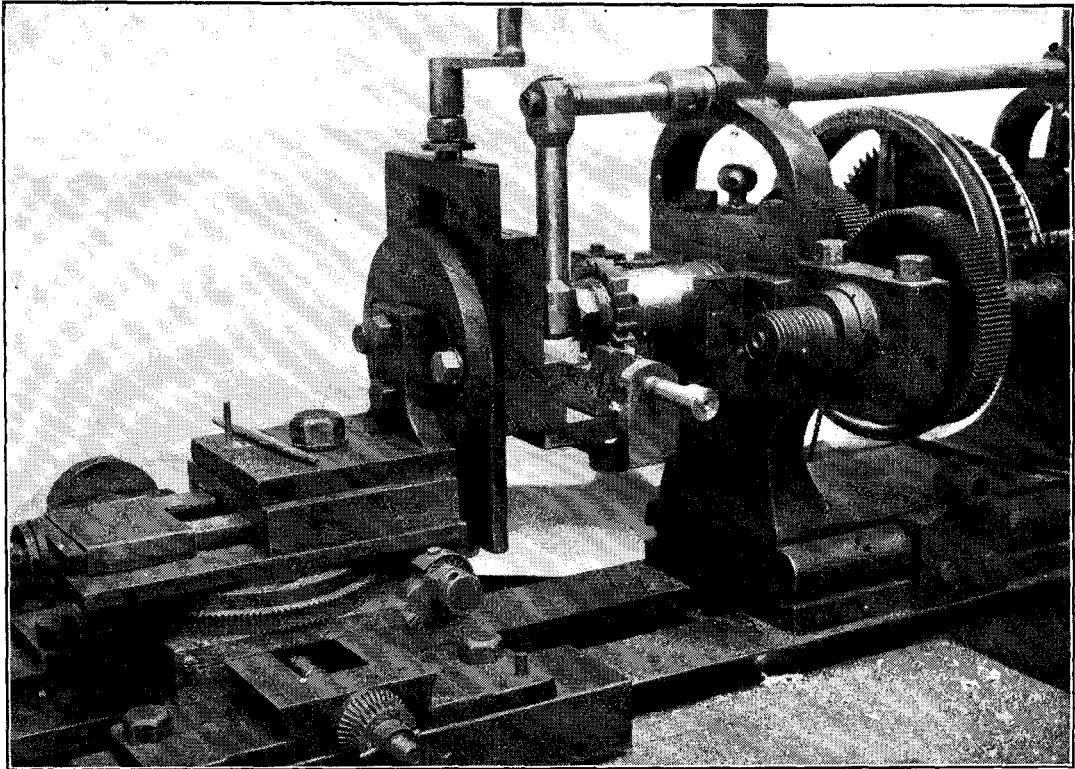

Fig. 7.—Vertical Slide with Platform used in conjunction with the Billing Attachment shown.
I.—In the milling arrangement shown in Fig. 7, the turret is removed and a vertical slide, carrying a platform for the work to be milled, is substituted.